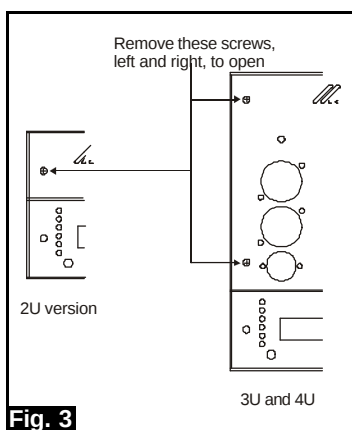

Fig. 3
Remove the front panel screws, Fig. 3, page III. Slide the chassis forward, taking care to release the earth strap on the right hand side and pull it out completely from the lid section.
1. Remove the front panel screws, as shown in Fig. 3 on page III, open the unit, detach the earth cable and remove the dimmer chassis from the lid section.